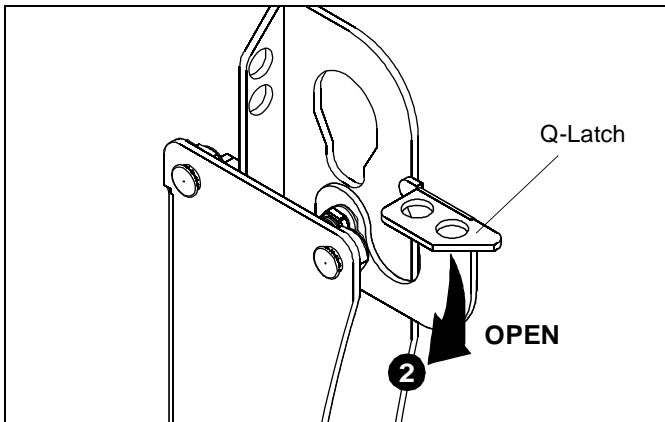

Figure 3
2. Move both Q-latches on PRO16 to the OPEN position. (See Figure 3)